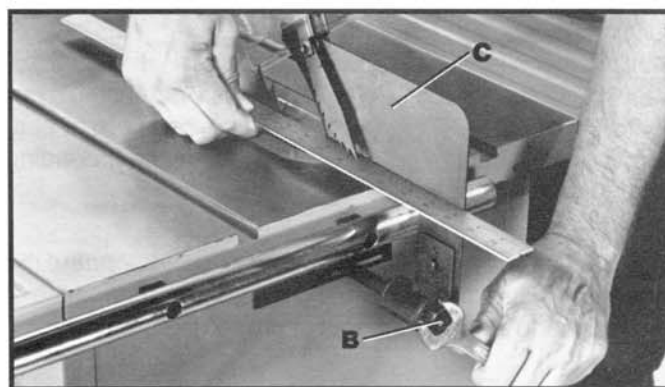

Fig. 20
5. Check the alignment of the splitter (C) Fig. 20, to the saw blade using a straight edge as shown. If alignment is necessary, loosen nut (B), align splitter (C) and retighten nut (B).